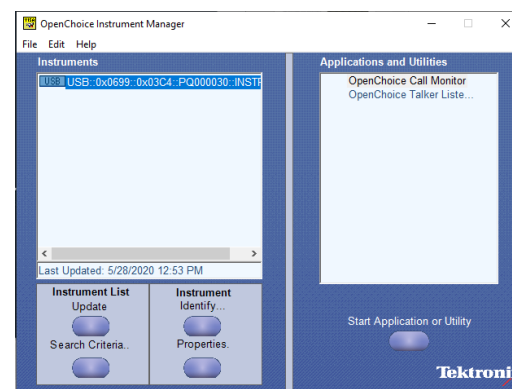

Figure 22. Look for the USB item in the Instrument list
7. The TBS1000C will be listed in the Instruments list (Figure 22)